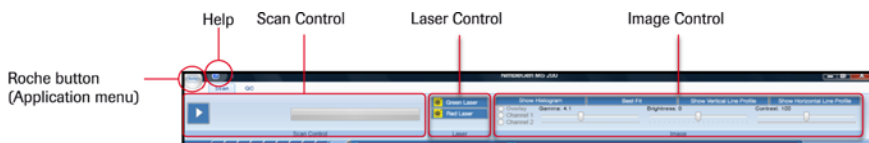

Figure 3: Top of Data Collection Workspace, showing Scan Control, Laser Control, and Image Control
6. Click the **Green Laser** and **Red Laser** buttons in the Laser Control (Figure 3) to switch on the lasers. Allow lasers to warm for 10 minutes.